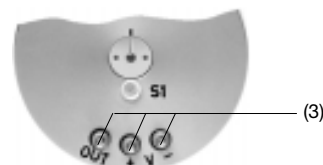

Fig. 4
There are 3 soldering posts (3) on the back of the transmitter for attaching the electrical connections (see Fig. 4). The soldering posts suffice Protection Class IP 00 according to EN 60 529.